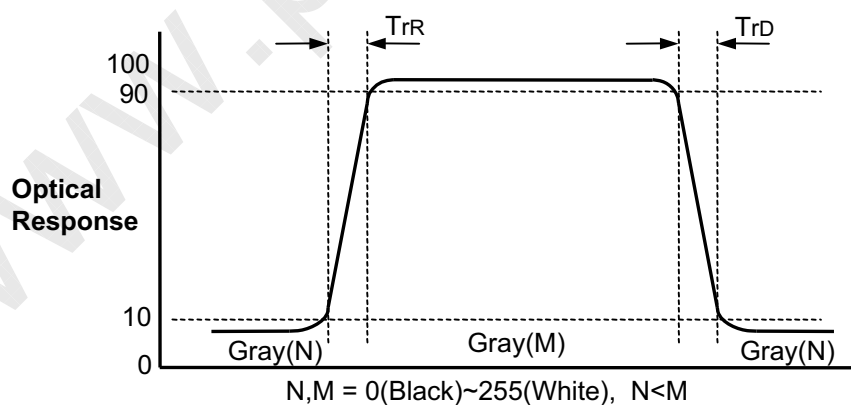

FIG. 3 Response Time
- Response time is defined as the required time for the transition from G(N) to G(M) (Rise Time, Tr_R) and from G(M) to G(N) (Decay Time, Tr_D). For additional information see the FIG. 3. (N<M)